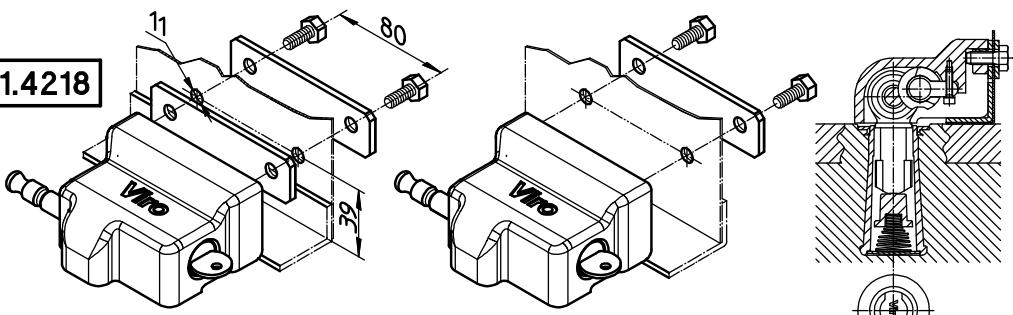
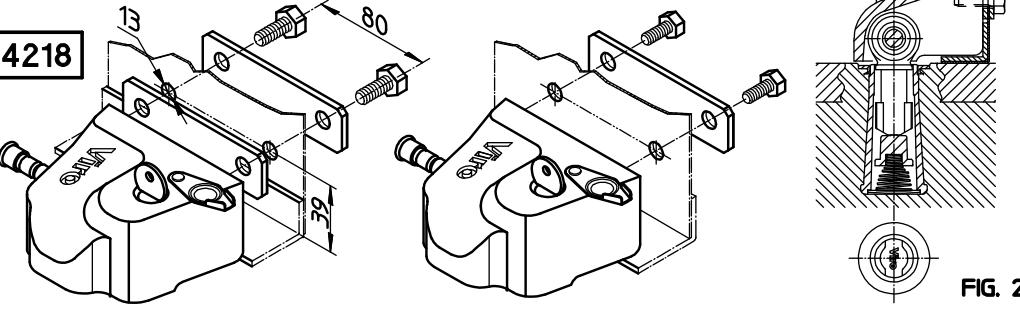

FIG. 1
FIG. 2
- Fixer la cloche de blocage au sol comme indiqué en FIG. 1 et FIG. 2
- Fix the anchoring device on the floor as indicated in the high view of FIG. 1 or FIG. 2